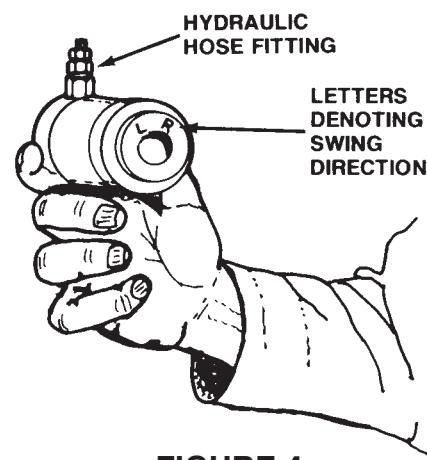

FIGURE 4
5. View the cylinder from the bottom, and align the letter (marking the direction of swing; i.e. L = left, R = right, S = straight [no swing]) with the inlet fitting. See Figure 4.